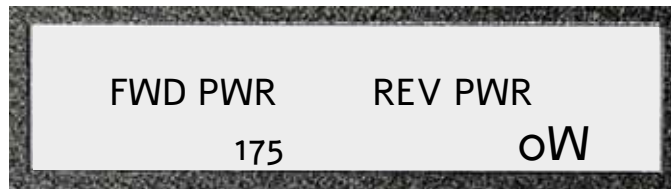

Figure 3-12. Press the FUNCTION Key to read Forward & Reverse Power
4. Pressing the FUNCTION key again results in a screen showing forward power and reverse power (see Figure 3-12).